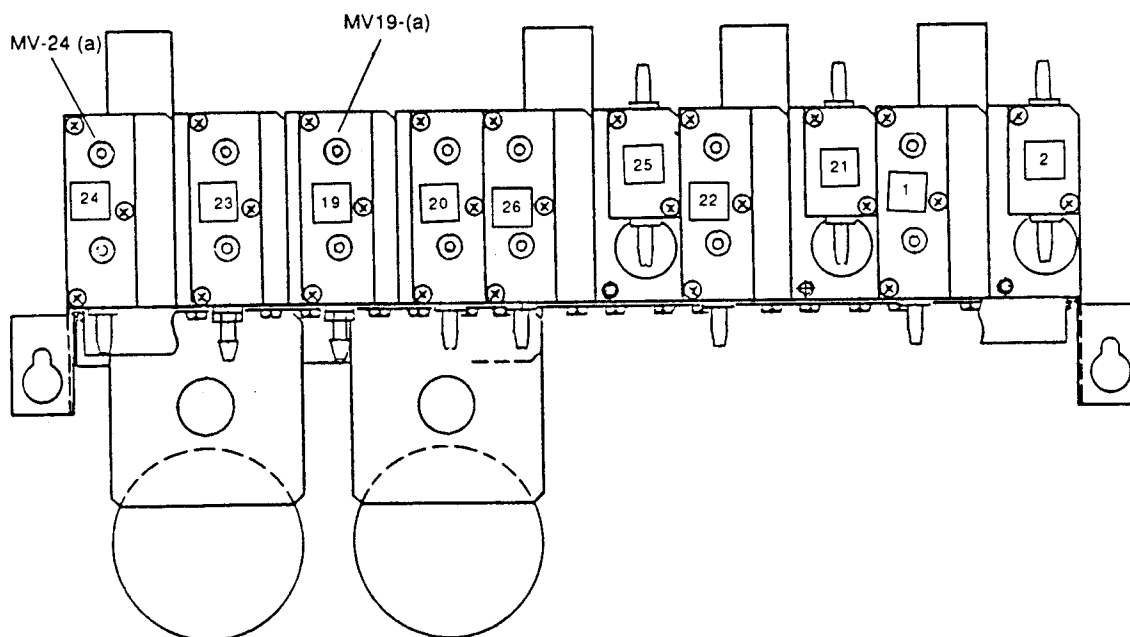

Figure 6-3-10 Location of the nipples for the adjustment of DP1 and DP2
- D. Open the Operation Panel and disconnect the tube from the nipple (a) of Master Valve MV24. Figure 6-3-10 shows the location of tube.
- D. Open the Operation Panel and disconnect the tube from the nipple (a) of the Master valve MV-19. Figure 6-3-10 shows the Location of the tube.